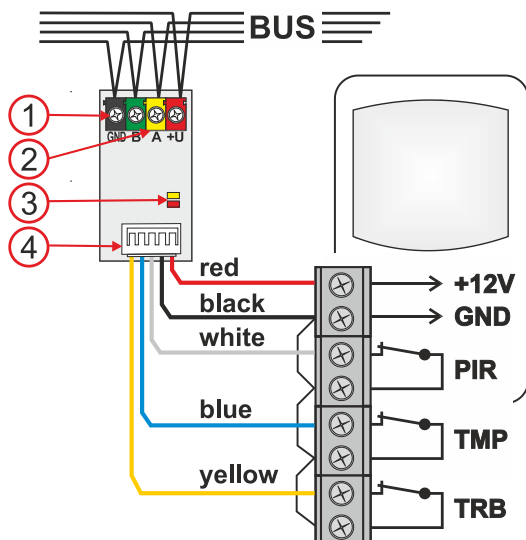

Figure 1: Description of internal part of the product and connecting the wires of the module
2. Connect the wires to the detector (according to Fig. 1).